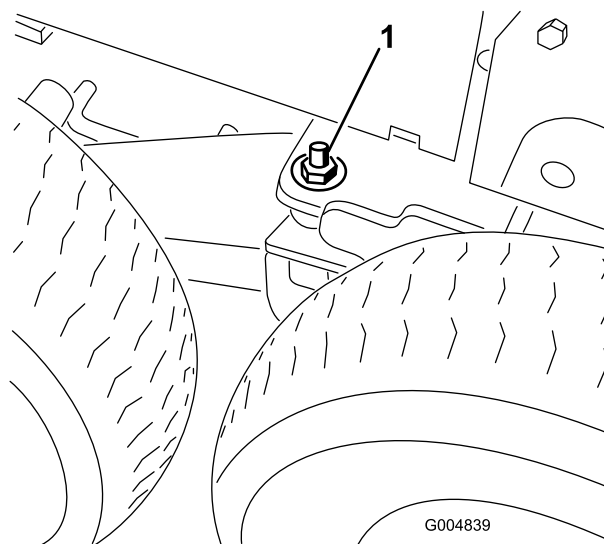

Figure 52
15. Remove the flat washer (1/2 inch) and nut (1/2 inch) installed on the stud on each bogie pivot (Figure 52).
22. Lower the floor jack until the front wheels support the frame. Install the flat washers (1/2 inch) and locknuts on the bogie pivot stud (Figure 52) and torque to 75 ft-lb (102 N·m).